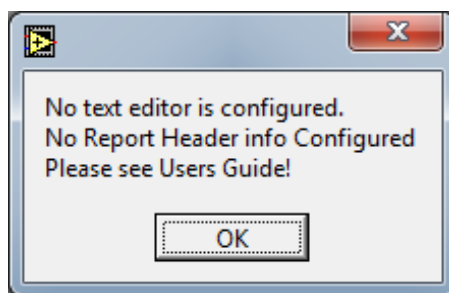

Figure 38 This message box is displayed when no text editor is configured and the Utilities tab is activated.
1. When the Utilities tab is activated for the first time, the message shown in figure 38 appears. Click OK.